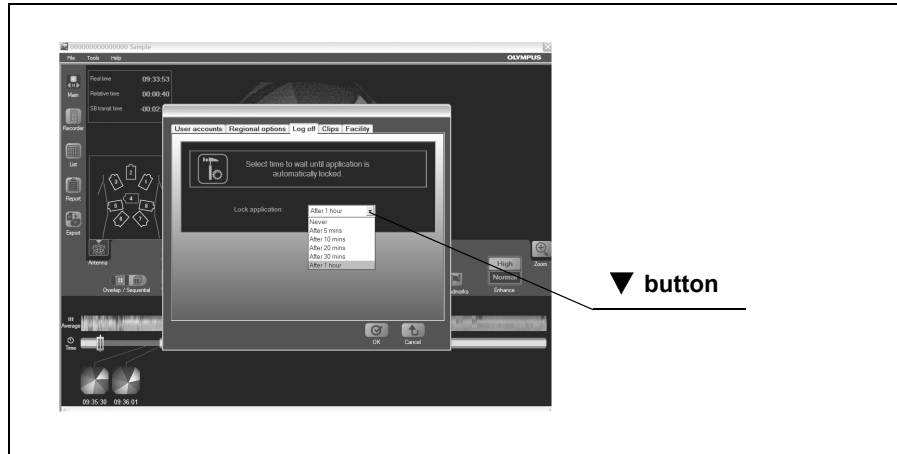

Figure 4.32
3. Click the “▼” to the right of “Lock application” to select the activation time for the lock screen (see Figure 4.32).